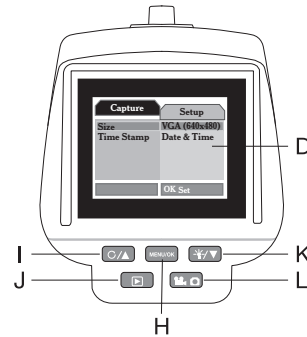
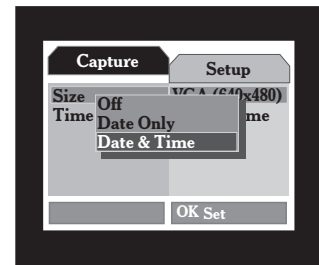

Fig. 6
Fig. 7
- Press and hold the Menu / OK button **(H)** to enter the settings menu. (Refer to Figure 6).
- In camera mode the first menu (Capture) is as illustrated in Figure 6; from this menu click the Down button **K** once to select “Time Stamp”, then press Menu/OK **H** again to bring up the Time Stamp sub-menu. Refer to Figure 7; the options are “Off”, “Date Only” and “Date & Time”. Use buttons **I** or **K** to select the required format then press Menu/OK **H** to confirm. The selected date/time format will be stamped onto the still images saved.